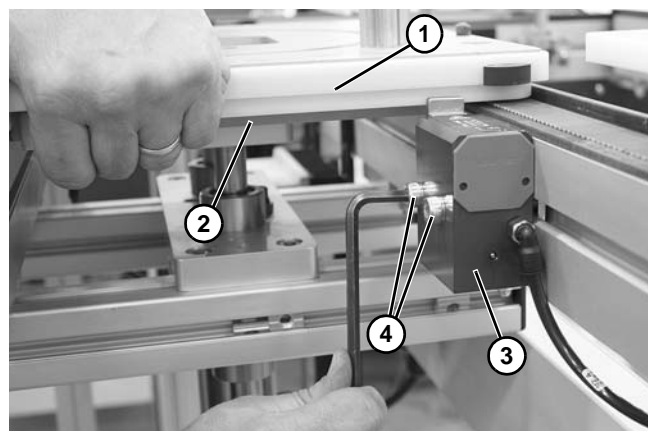

Figure 16
3. Place pallet (**Figure 16, item 1**) on lift and locate top plate (**Figure 16, item 2**). Raise top plate to underside of pallet.
4. Install pallet stop (**Figure 16, item 3**). See “Pallet Stops” on page 6.
5. Position stop against pallet and tighten socket head screws (**Figure 16, item 4**).